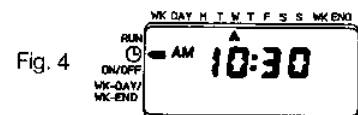

Fig. 4
- Now use the PLUS (+) and MINUS (-) buttons to alter the display to the correct time of day, making sure that the AM/PM symbol is also correct (see figure 4).